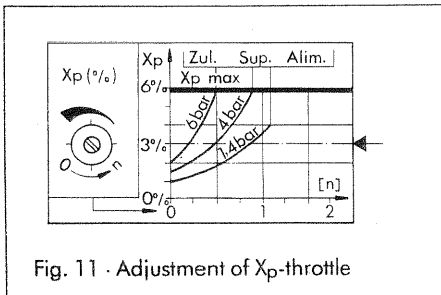

Fig. 11 · Adjustment of  $X_p$ -throttle
#### 4.1.1 Determination and reversion of the operating direction (figures 6 to 9 and figure 11)
Once again place the nozzle block (7.1) in position shifted by  $180^\circ$  and secure this. It is absolutely necessary to ensure the correct position of the nozzle block with the flapper plate to the feeler pin of the coupling (5) as shown in figure 11. If, after laying down coordination, the operating direction is to be reversed, the positioner must be screwed onto the other side of the valve. Ensure correct positioning of lever (1) and plate (20).
By adjusting the  $X_p$ -throttle as a function of air supply pressure must be considered according to diagramm fig. 11. Normaly adjustment should be at  $X_p = 3\%$ . For air supply pressure between 1.4 and 4 bar the throttle is to open about 1 rev. ( $n=1$ ).
After this, if necessary readjust  $X_p$ -throttle, don't pass the limits in diagramm fig. 11. Otherwise the positioner does'nt remove air enough and the valve can't reach the Zero-position (e.g. closing position).
In this application, the travel of a controlled valve or another device is measured and converted into an output signal (pA) from 0.2...1 bar or 1...0.2 bar. Refer to figure 11 for attachment.